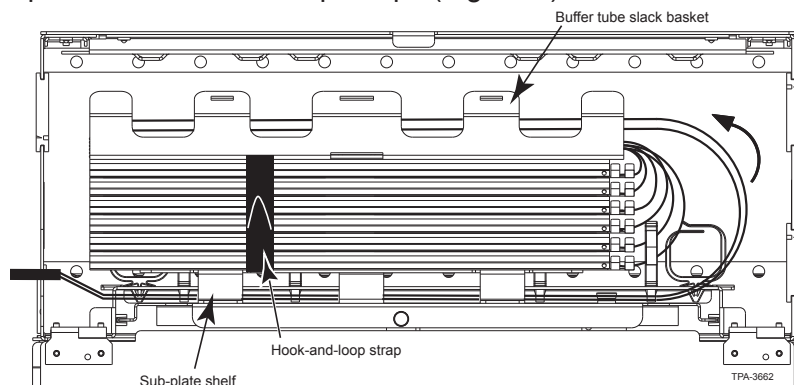

Figure 9
- Step 4:** Repeat for all splice trays. Secure the completed trays to the sliding shelf with one of the provided hook-and-loop straps (Figure 9).